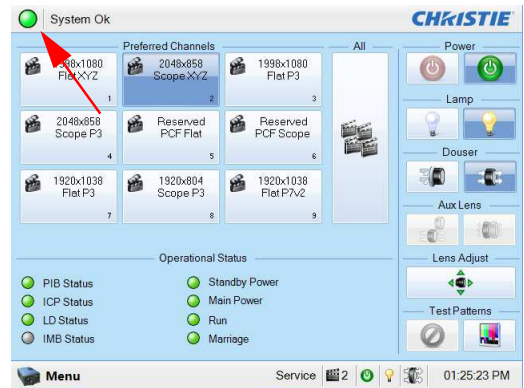

Figure 5-3 TPC LED
2. Check for interlock failures. From the **Main** panel on the TPC, click the LED in the top, left corner to open the **Status** window. (**Figure 5-3**). Alternatively, click the **Menu** button and select **Status**. With the **Status** window open, click **Interlocks**. If a failure is shown, interlock needs to be cleared before the lamp will light.